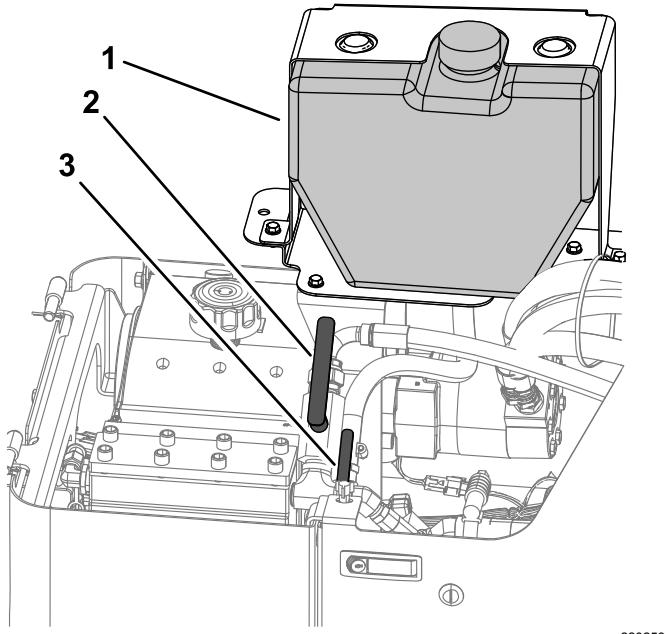

Figure 120
A. Open the antifreeze valve on the front side of the drilling-fluid pump as shown in Figure 120.
C. Add antifreeze to the tank as needed (Figure 120).
5. Install the cap onto the antifreeze tank (Figure 120).
6. Close the antifreeze valve (Figure 120).
D. Remove the cap from the antifreeze tank for the drilling-fluid pump (Figure 120).
E. Ensure that the tank is full of antifreeze (Figure 120).